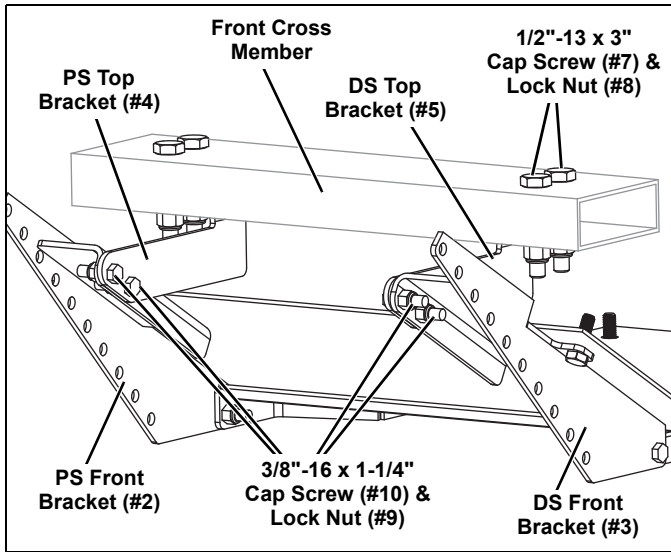

Figure 3
- Loosely secure the DS Front Bracket (#3) and DS Top Bracket (#5) together with a (2) 3/8"-16 x 1-1/4" Cap Screws (#10) and (2) 3/8"-16 Lock Nuts (#9). (See Figure 3.)